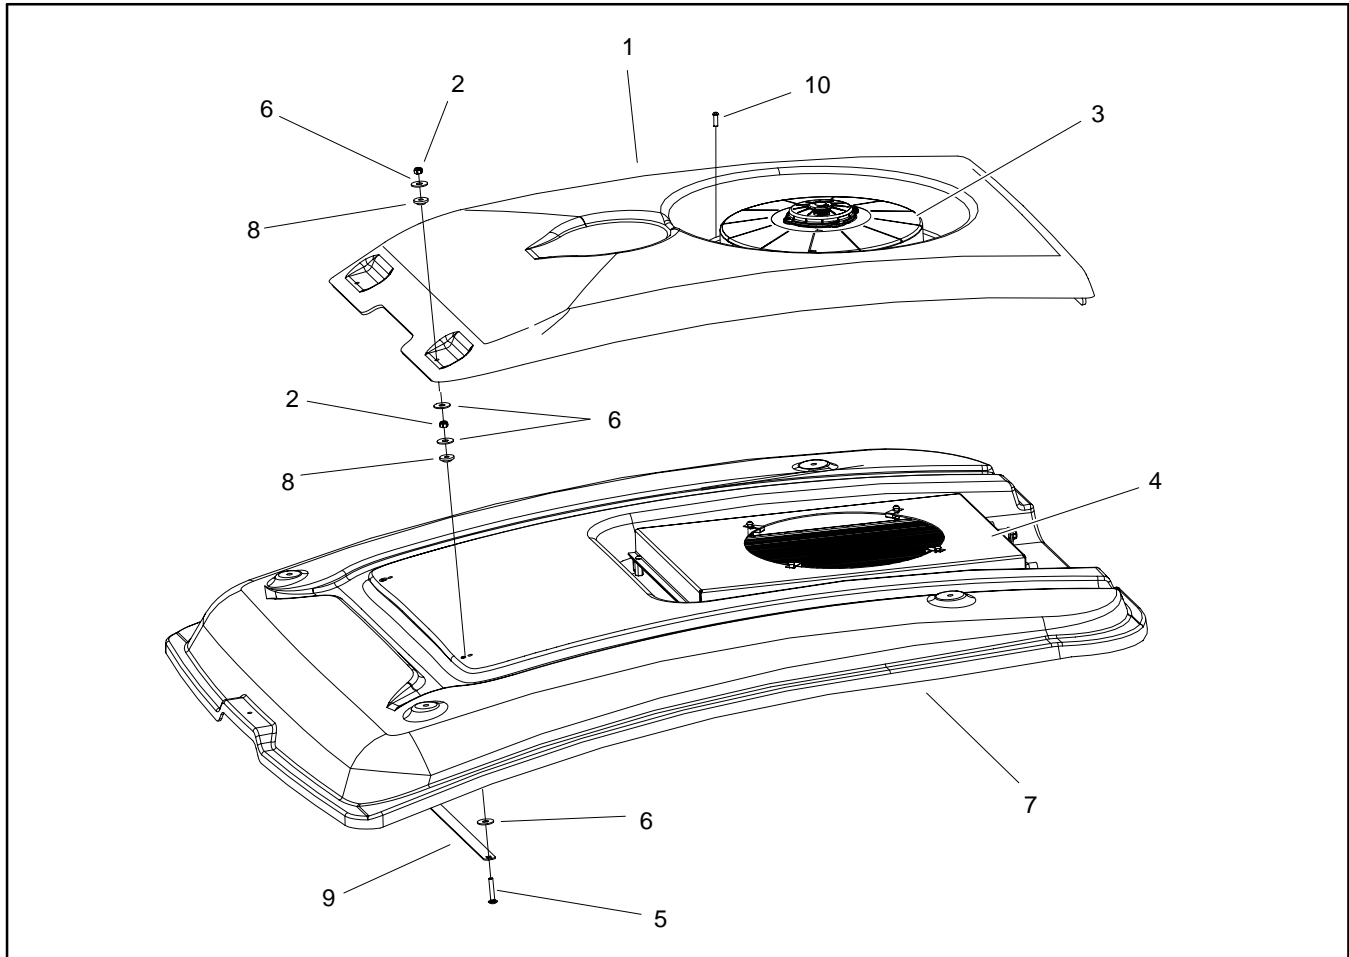

Figure 5
### Removal (Fig. 5)
**Installation (Fig. 5)**